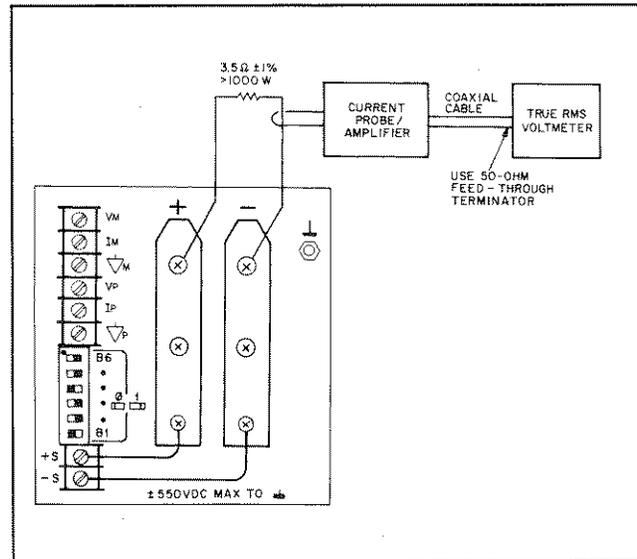

Figure 5-7. CC PARD Test Setup
- Connect the test equipment as shown in Figure 5-7.
Test Points: See Figure 5-7